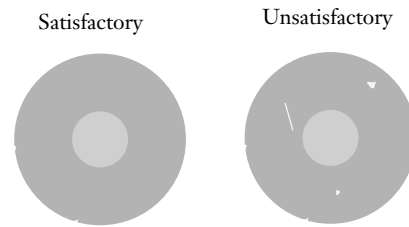

Figure 5
3.4 Make a visual check of the connector end-face (Figure 5).